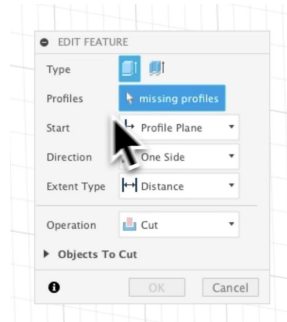

Figure 1.4
- Right-click the affected **Extrude** in the timeline and select **Edit Feature**. It will show it's '**missing profiles**' because we just erased it (see Figure 1.4).